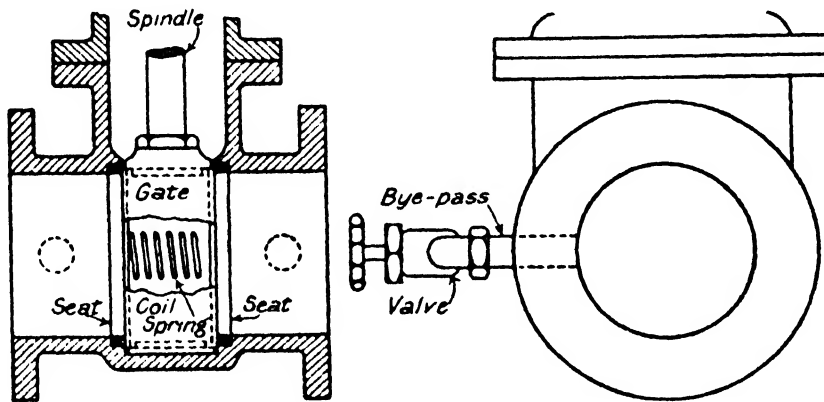

FIG. 113.—The Fullway Valve, showing Bye-pass.
**The Fullbore Valve.**—The fullway, sluice, or gate valve (Fig. 113) has a sluice which is operated by a screwed spindle attached to it and the hand-wheel. There are many patterns, but the principle is the same. Some have paralleled slides, and some have tapering ones with a wedge-shaped sluice. Some have the operating screw exposed and some have it encased; and there is a quick acting type which has a piston rod instead of a screw to operate the sluice. The sluices of the
The fullway valves on large pipes under great pressure are difficult to open because of the pressure being against one face of the sluice only. On steam range valves a bye-pass, as shown in Fig. 113, is fitted: the use of this relieves the unequal pressure, and at the same time heats up the dead portion of the range slowly, thus preventing distortion in the pipe-line. To operate quick-acting valves on cold mains, a powerful leverage is applied to the spindle either by hand, or by mechanical or hydraulic power.